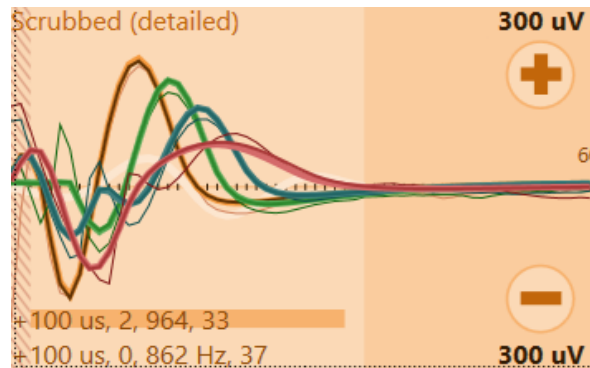

Figure 7.4: ECAP display: A) Raw; B) Scrubbed (simple); C) Scrubbed (detailed); with up to 4 colors representing each measurement configuration.
2. Touch the ECAP display to toggle between three modes of ECAP display (see Figure 7.4): Raw, Scrubbed (simple) and Scrubbed (detailed).